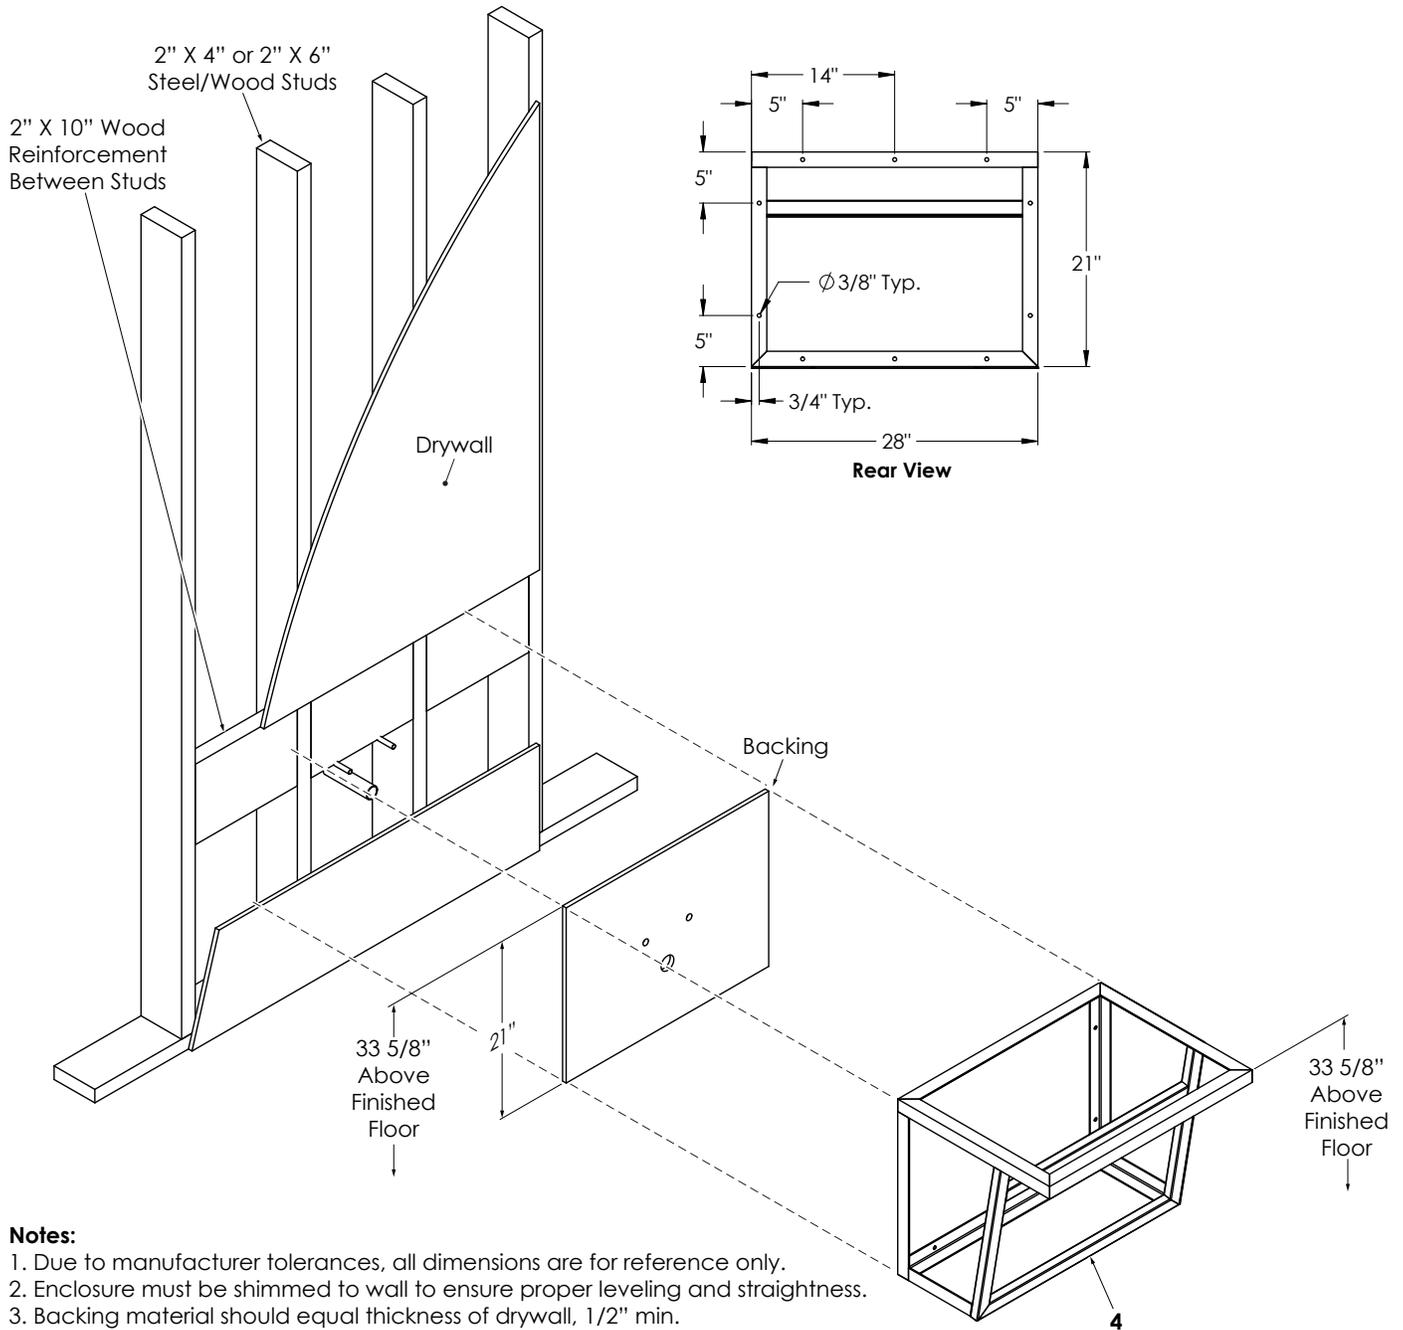

Figure 4
3. Install Backing (Figure 4) onto wall studs.
4. Refer to the template in (Figure 4), mount the Enclosure (4) to the backing. Ensure that Enclosure (4) is level and the proper distance from the floor.